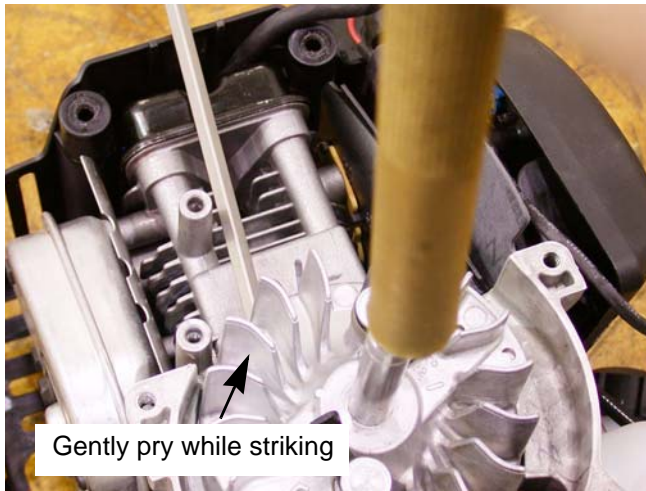

Figure 4.7
3. Remove the flywheel by striking the crankshaft with a brass punch. See Figure 4.7.